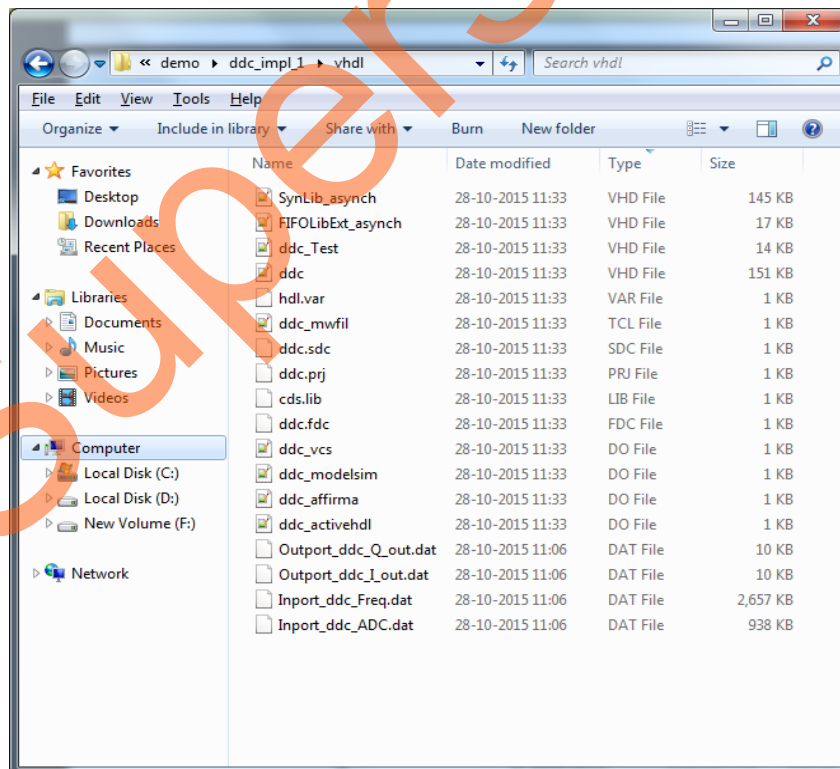

Figure 11. VHDL Files Generated by Symphony Model Compiler ME
14. After the synthesis is done, close the Symphony Model compiler. The Symphony Model Compiler ME creates files in the path: `C:\demo\ddc_impl_1\vhdl`, including the RTL, as shown in Figure 11.